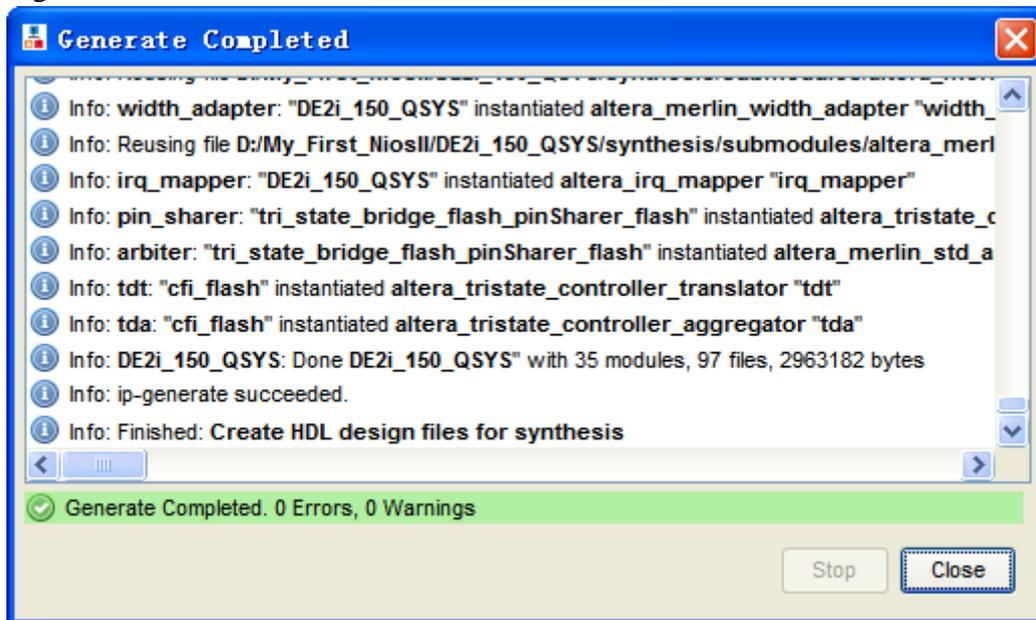

Figure 3-21 Generate Qsys
14. Choose **System > Auto-Assign Base Addresses**, then click **Generate** to generate the Qsys as shown in Figure 3-21.